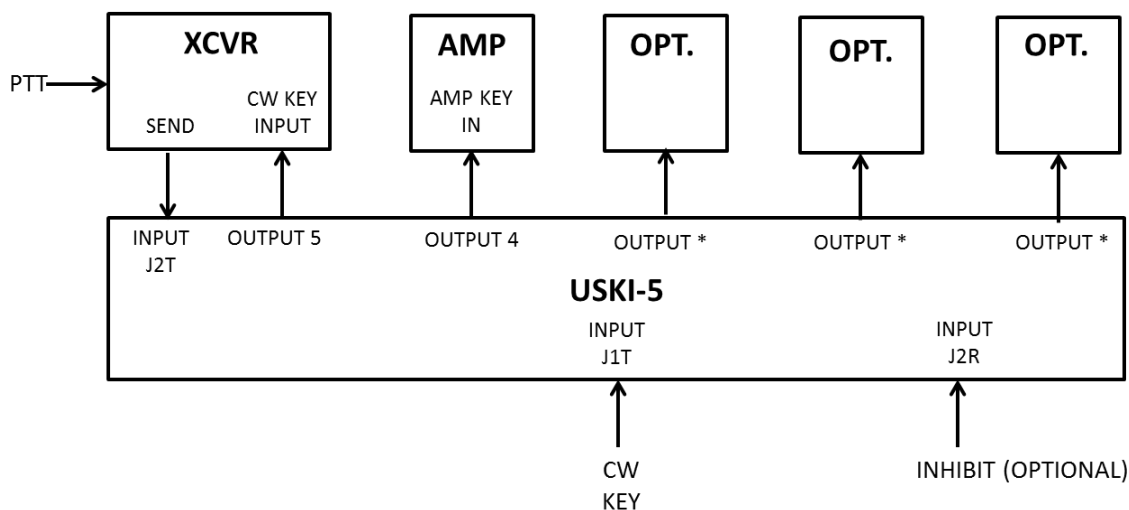

FIGURE 3
- **USKI-5 Program (B)** has all the features of Program (A) but in addition has two separate timing sequences, one for CW and one for PTT operation. Each can be programmed with different delays if necessary.
- **USKI-5 Program (C)** provides for sequenced keying of a transmitter (or transceiver), amplifier, and other accessories from an external (not the radio's built in keyer) CW keying device while allowing normal direct non-sequenced PTT or VOX control of the transmitter. This program is NOT intended for use in stations with transverters, TMAs, etc. Program (C) also provides a transmit inhibit function. Several station configurations are suitable for control with Program (C). Probably the most common is shown in figure 3 (the order of connections for outputs 1 – 4 may be different depending on the specific devices being controlled)